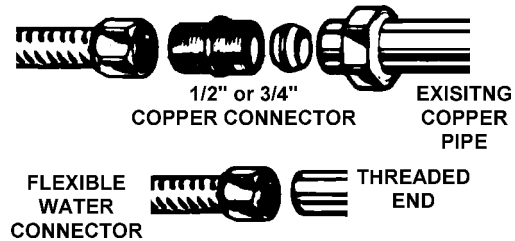

FIGURE 6.
3. If your home has 1/2" or 3/4" copper piping to the water heater, use the correct size compression fittings to connect both flexible water connector to existing copper pipes. Connect fittings to existing piping first. If your home has 3/4" galvanized piping to the water heater, simply apply Teflon tape or pipe joint compound to the ends of the galvanized pipes and screw flexible connector onto the pipes, see Figure 6.